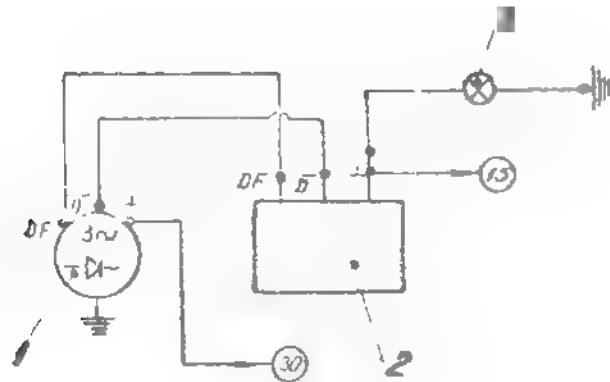

Fig. 4.34. DIAGRAM FOR TESTING CONNECTING CIRCUIT BETWEEN BATTERY, IGNITION SWITCH AND VOLTAGE REGULATOR.
- Touch one terminal of the test lamp with voltage regulator " + " terminal and the other terminal of the test lamp touch with the ground (vehicle body), as shown in the Fig. 4.34: the test lamp should light by switching on the ignition switch key.